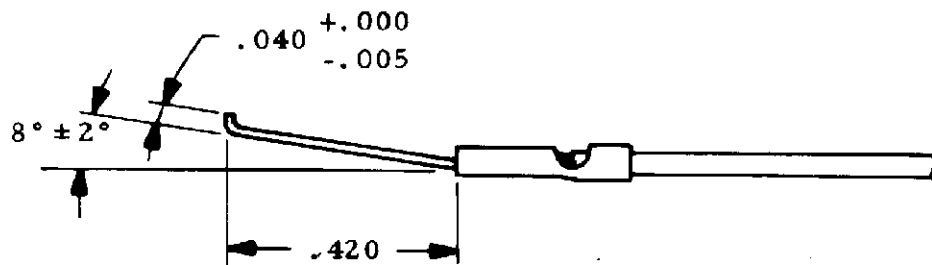

Figure 3
- (1) Lead wire and uninsulated solid wire shall extend thru the wire barrel.
- (2) Both insulation and conductor shall be visible between the insulation barrel and wire barrel. Care shall be taken not to allow insulation to be crimped in the wire barrel.
A. The uninsulated solid wire shall be bent as specified in Figure 3.